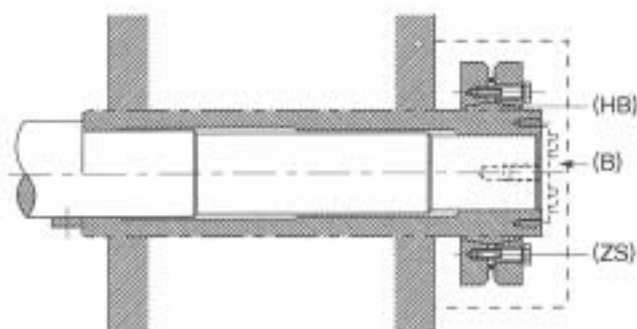

Fig. 6 Full mounted position
The shrink disc has a keyless shrink fit mechanism which shrinks hub (HB) mechanically through the tightening locking bolt (ZS), and holds shaft and hub as one fixture. (Fig. 6)
- (1) Clean and degrease contact surfaces (a) and (c).
- (2) Smear surface (c) with "Molykote 321" or its equivalent. However, keep surface (a) as clean as possible (no grease).
- (3) Slide O-ring (b) onto the shaft.
- (4) Mount the reducer on the driven shaft and screw nut (e) until faces (g) and (h) make contact.
- (5) Set the shrink disc (k) at dimensions (LV). Tighten locking bolt (ZS) at specified torque (TA) (using a torque wrench). Make sure that both plates are parallel when tightening bolts. After confirming that the shrink disc is set correctly, tighten the bolts with a wrench of appropriate length. Uniformly, tighten bolts clockwise (not diagonally) while keeping both plates parallel. It is recommended to tighten respective bolts by 30° each time.
Note 1. In case of a vertical type unit, mount a thrust washer (B) to prevent the reducer from moving when locking nut (ZS) is loosened. (Fig. 6)